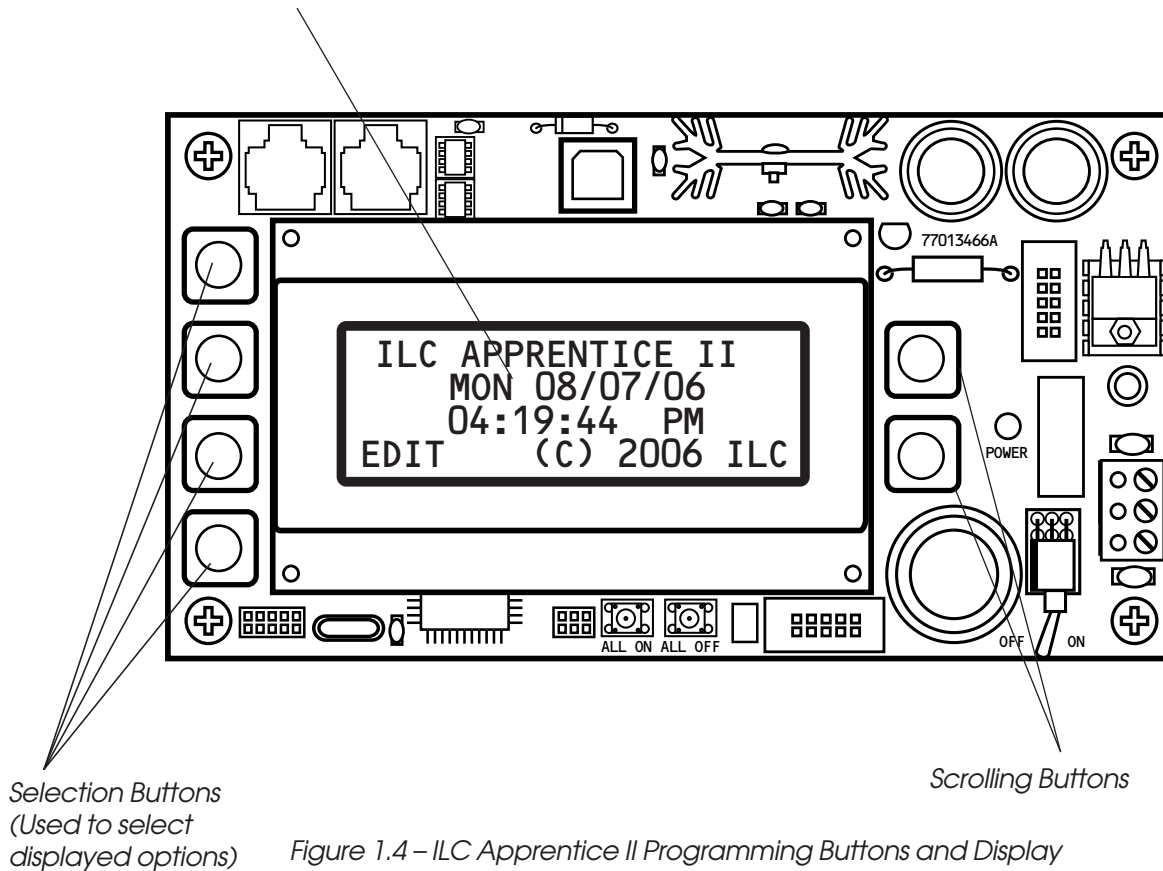

Figure 1.4 – ILC Apprentice II Programming Buttons and Display
1.1.6 Programming Buttons/Display - (See Figure 1.4.) The ILC Apprentice provides you with programming buttons and a LCD display to enable programming and view controller data.